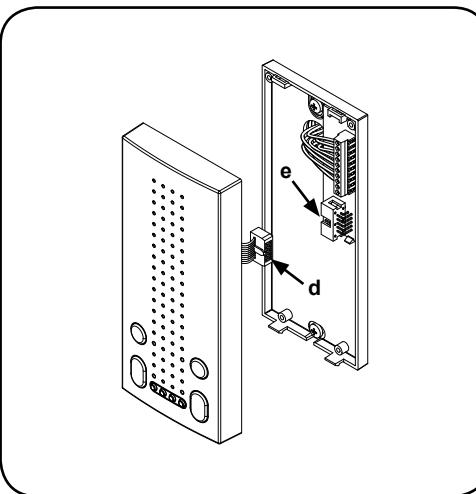

Fig.5
• Connect ribbon cable plug "d" from the front plate into plug "e" on the pcb connection board as shown in Figure 5.